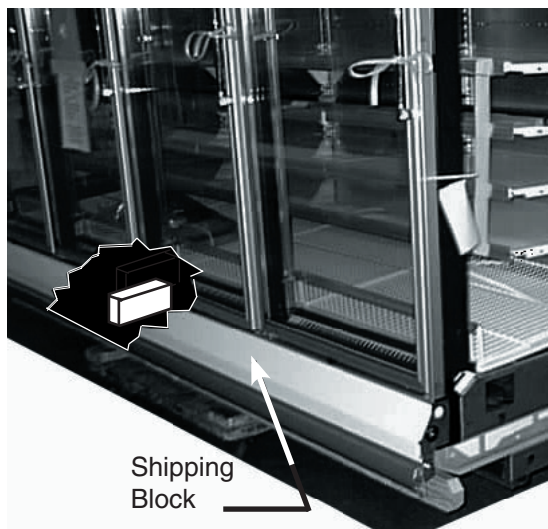

Figure 2: Remove Shipping Block
- 2** Locate and remove the shipping block in the center of the heat exchanger in the interior bottom of each case, see Figure 2.